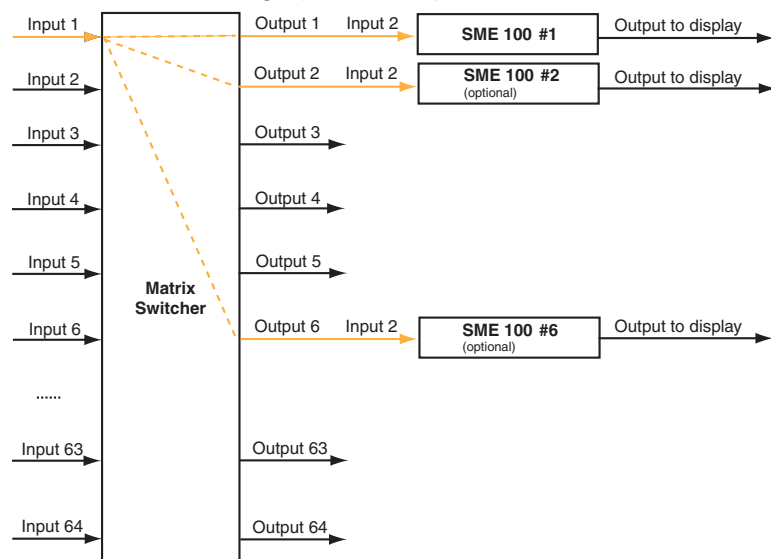

Figure 85. Multiple SME 100s Connected to a Matrix Switcher
1. Connect input port 2 on the SME 100 (see item ④ in the "**Rear Panel Features**" section on page 12) to a video output port on the matrix switcher.
2. On the matrix switcher, tie input 1 to the output that is connected to input 2 on the SME 100 (see figure 85). Refer to the applicable matrix switcher user guide for information on creating input and output ties.